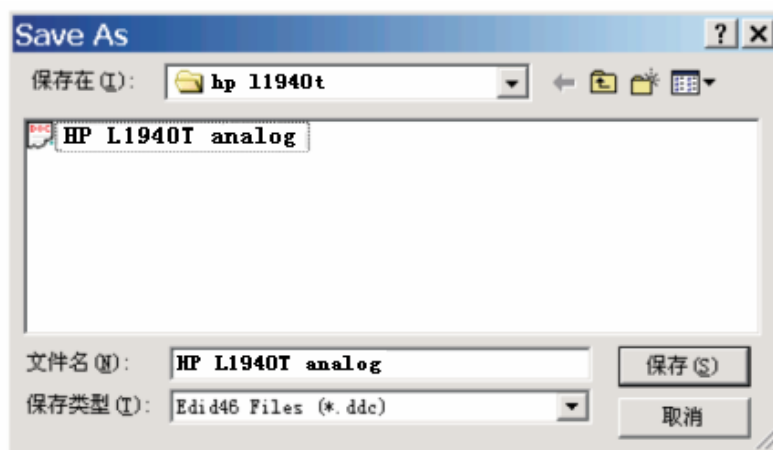

Fig. 25
1. Click (Save) icon (or click "file"-> "save as") from the tool bar and give a file name as shown in Fig. 25. The file type is EDID46 file (\*.ddc) which can be open in WordPad. By using WordPad, the texts of DDC data & table (128 bytes, hex code) can be modified. If DDC TEXTS & HEX Table are completely correct, it can be saved as .ddc file to re-load it into DDC IC for DDC Data application.